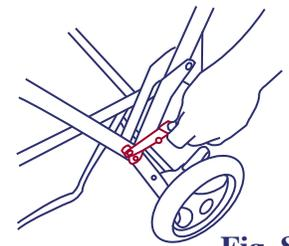
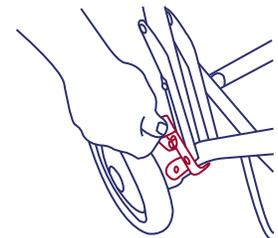

Fig. 8
Fig. 9
- Lift upward on the secondary safety lock on the left side of the stroller just above the rear wheel. Please see figure 8. Lift upward on the spring loaded automatic latch on the right side of the stroller just above the wheel while pushing forward on the handle. Please see figure 9. Once the stroller begins to fold, release the latch and pull upward on the front of the stroller until the stroller is folded. Please see figure 10. Secure the stroller in the folded position by latching the fold latch, located on the right side of the stroller handle, over the extended rivet on the front leg. Please see figure 11.
- Lift up on the stroller handle with both hands until the stroller frame is erect and locked in the open position. See figure 10. The stroller has a spring-loaded latch on the right side of the frame. Test that latch is fully engaged. **Engage the manual secondary safety lock** on the left side of the frame prior to placing your car seats on the stroller. See figure 8.